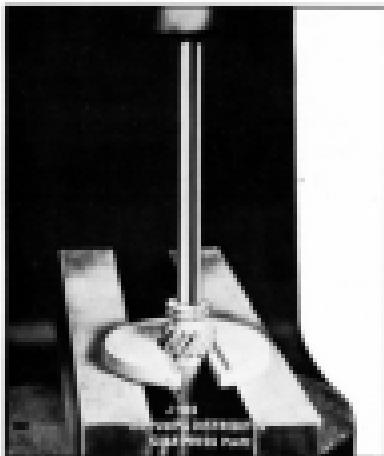

Fig. 201. Removing Oil Pump Drive Gear with Tool J-874-1—Pump Removed from Engine
- inner face of gear bush and pump body. Tool J-874-1 must be used when assembling pump drive gear; otherwise, proper end clearance of pump shaft assembly will not be maintained. (See Fig. 201.)